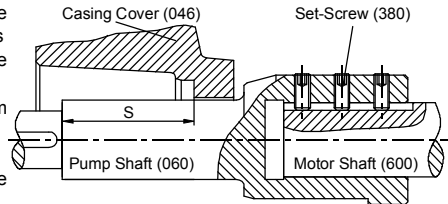

Fig. 8.
- Place the motor (600) vertical as the shaft end comes to the upper side.
- Assemble the motor pedestal (012) to the motor (600).
- Slip the pump shaft (060) onto the motor shaft.
- Place the stuffing box cover (046) onto the motor pedestal (012)
- Make the alignment of the pump shaft's location to provide the length as per the length "S" given in **section L**. ("S" is the distance between the shaft shoulder and the end of the mechanical seal chamber. **See Fig. 8**). Tighten the set-screws (for the shaft consists of 3 set-screws starting from the one in the middle and for the shaft consists of 2 set-screws start from the one near the motor).
- Slip the rotating part of the mechanical seal onto the pump shaft (060) and place the spacer sleeve (067).
- Place the impeller key (210) into keyway, slide the impeller (050) onto the shaft (060) and screw the impeller nuts (065).
- Assemble the volute casing (001).